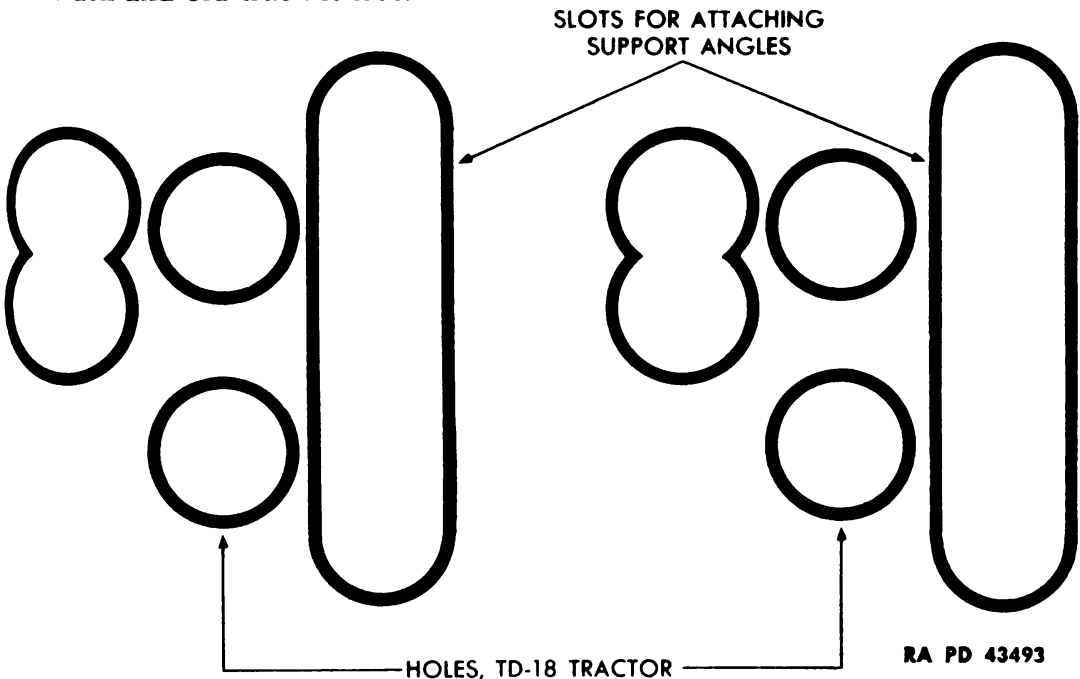

Figure 156 — Locating Holes in Angles
(1) REMOVE TRACK PLATES AND TRACK SHOES (par. 109).
(2) BREAK TRACK INTO SHORTER LENGTHS (TO SUIT OPERATOR) (figs. 156, 157, and 158).
(a) Install front support angle SE-1026-56 and rear support angle SE-1026-57 on adjustable head SE-1026-50 by using holes in angles (fig. 156).